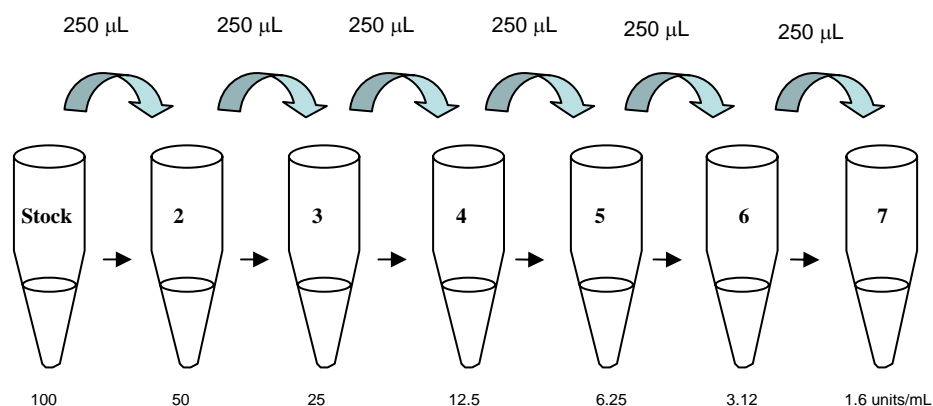

Figure 1: Recommended 2-fold Serial Dilution of Standard
- Standards #2-7 are then prepared by performing a 2-fold serial dilution of the preceding standard. Refer to Fig. 1. For example, to make Standard #3, remove 250 μ L of Standard #2 and add it to tube #3 and vortex and so on. Do not add any Standard to the "0 Dose" Standard tube.